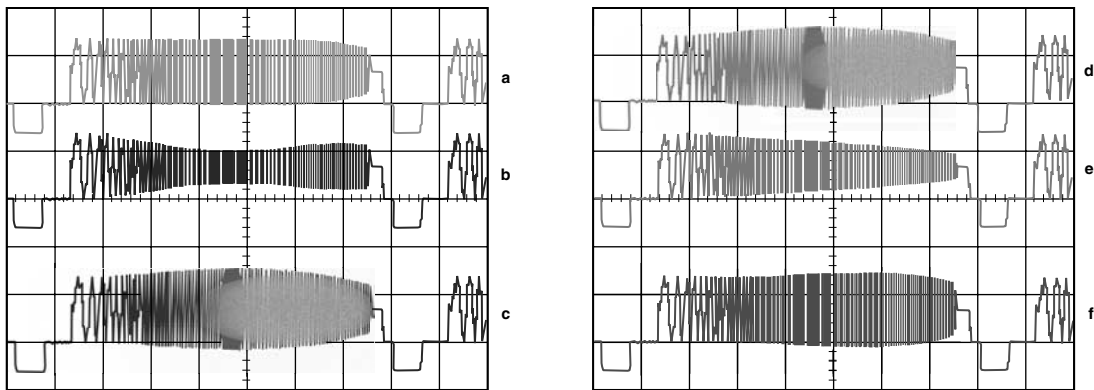

Figure 64. HD Sharpness Filter Control with Different Gain Settings for HD Sharpness Filter Gain Value
The register settings in Tables XIX and XX are used to achieve the results shown in Figure 64. Input data was generated by an external signal source.
*See Figure 64.